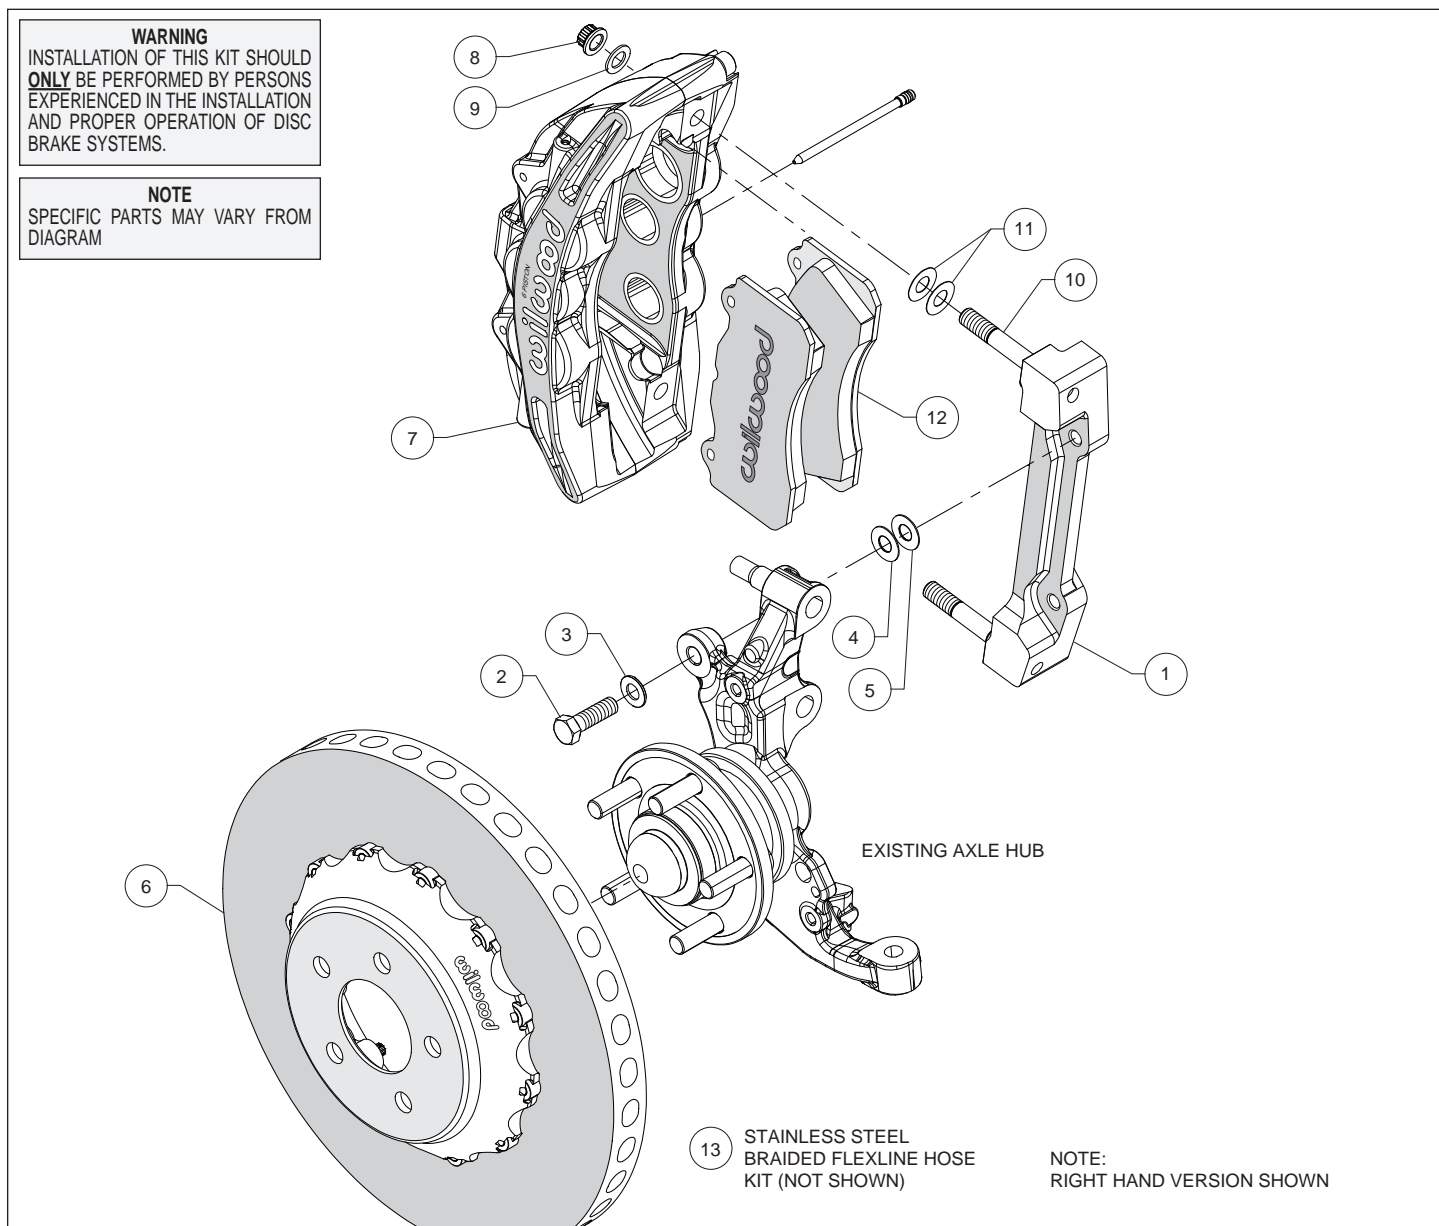

Figure 1. Typical Installation Configuration
Assembly Instructions (numbers in parenthesis refer to the parts list and Figure 1 on the preceding pages):
- The caliper mount bracket (1) should initially be installed with clean, dry threads on the mounting bolts. Orient the bracket, as shown in Figure 1 and Photo 1, and install using bolts (2) and washers (3). Initially place one .033" thick shim (4) on each bolt between the bracket and upright, Figure 1. Temporarily tighten the mounting bolts. **NOTE:** *The bracket must fit squarely against the mount bosses on the upright.* Inspect for interference from casting irregularities, machining ridges, burrs, etc. Later, after the caliper alignment has been checked, the mount bolts will be secured using red *Loctite*® 271.
- Slide the hat/rotor assembly (6) onto the axle hub. **NOTE:** *The hat must fit flush against the axle hub flange or excessive rotor run out may result.* Install three lug nuts (finger tight) to keep the hat/rotor assembly in place while continuing with the installation, Photo 2.
- NOTE:** *This kit contains distinct right and left hand calipers that must be mounted in a specific direction, as described below.* Lubricate the caliper mounting studs (10) with lightweight oil. Initially place two .015" thick shims (11) on each stud between the caliper and the bracket, as shown in Figure 1 and Photo 3. Mount the caliper (7) onto the bracket (1) using lock nuts (8) and washers (9), Figure 1. Temporarily tighten the lock nuts. Ensure that the caliper is mounted so the largest pistons are at the rotor exit end of the caliper, in relation to the direction of the rotor. View the rotor through the top opening of the caliper. The rotor should be centered in the caliper, Photo 4. If not, adjust by adding or subtracting shims (4 and/or 5) between the bracket and the upright. Always use the same amount of shims on each of the two mounting bolts. Once the caliper alignment is correct, remove the bracket mounting bolts (2) one at a time, apply red *Loctite*® 271 to the threads, and torque to 60 ft-lbs.
- Remove the two pad retaining pins from the caliper (7) by pushing out the pins from the tapered end using a blunt instrument. Insert the brake pads (12) into the caliper from the bottom, Figure 1 and Photo 5. With the friction material facing the rotor, secure the brake pads in place with the pad retaining pins, Photo 6. Reinstall the caliper onto the caliper mounting bracket and temporarily tighten the lock nuts. Check that the top of the brake pad is flush with the outside diameter of the rotor, Photo 7. If not, adjust by adding or subtracting shims (11) between the caliper and the bracket. After the caliper pad height is set, torque the caliper lock nuts (8) to 65 ft-lb.